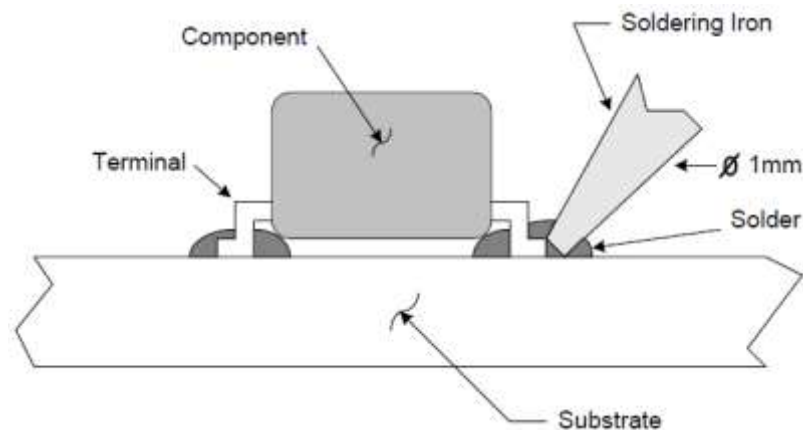

Fig. 11. Rework by Soldering Iron
2. The bit must not touch the component body. Contact should only be with the component leads or the land pads on the printed circuit board (Figure 11).